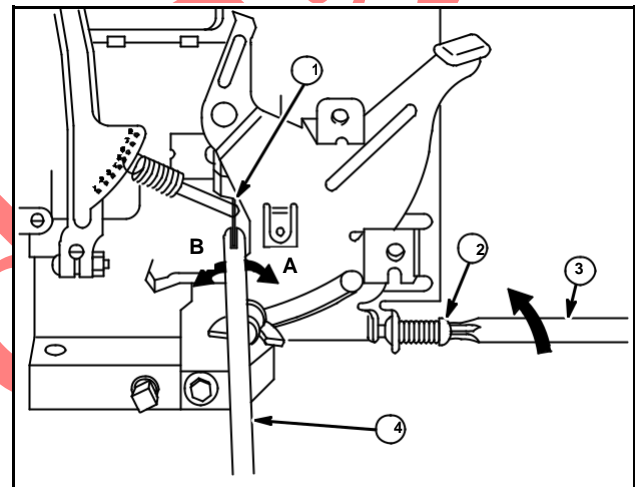

Fig. 23
4. First adjustment: bend spring anchor tang (1), Fig. 23, using Tang Bender Tool #19229 (4), to 100 to 200 RPM above specified speed, See Table No. 4, Page 28, Table No. 5, Page 28 and Table No. 6, Page 28, Specifications.
5. Second adjustment: use Torx driver (3) to turn TOP NO LOAD RPM screw (2) clockwise until specified speed is obtained, Fig. 23.
3. If tab on lever is touching head of TOP NO LOAD RPM adjusting screw (2), back out screw until tab no longer touches screw when control lever is in maximum RPM position, Fig. 23.
4. Bend spring anchor tang (1) using Tang Bender-Tool #19229 (4), to 3300 for 50 cycle or 3800 for 60 cycle.